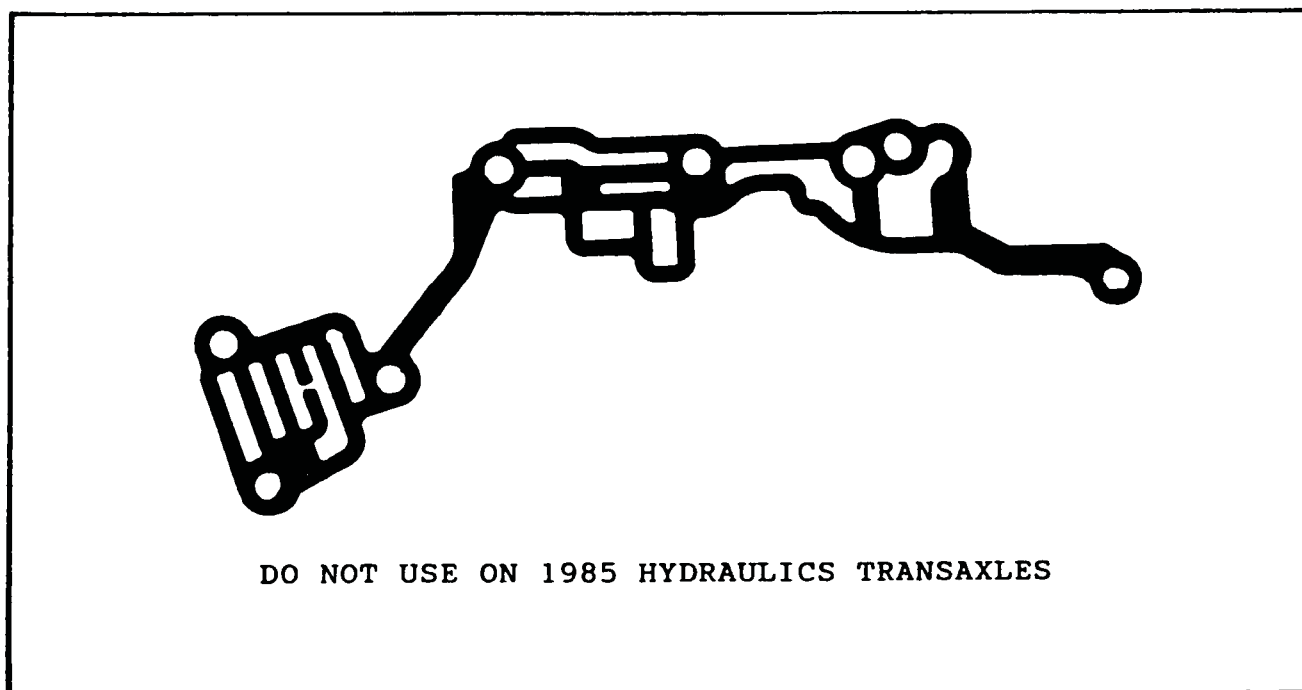

Figure 95
CHANGE: Upper Channel Plate Gasket (See Figure 95).
- (1) Upper Channel Plate Gasket - The Upper Channel Plate Gasket and Modulator Port Gasket are now connected together as one gasket (See Figure 95).